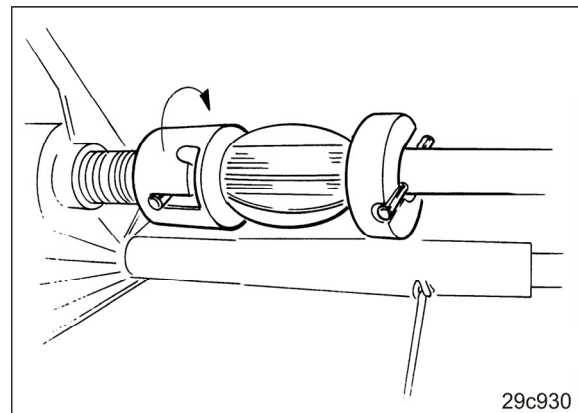

Fig. 200
1. Activate the left side of the seeding shaft (Fig. 200)